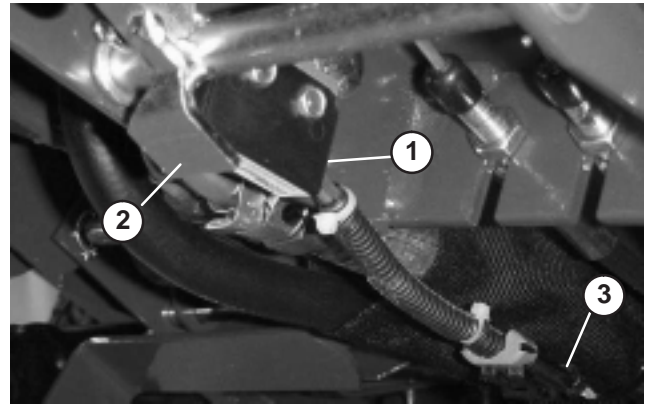

Figure 29
2. Gap between parking brake shaft pivot paddle and bottom of interlock switch (Fig. 29) should be approximately 1/16" (Paddle must not contact switch).